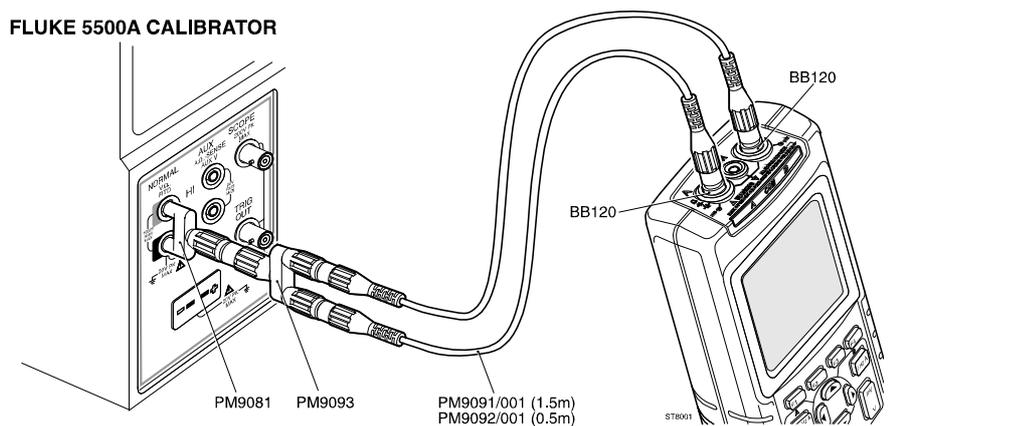

Figure 4-5. Test Tool Input A-B to 5500A Normal Output
1. Connect the test tool to the 5500A as shown in Figure 4-5.
1. Connect the test tool to the 5500A as for the previous test (see Figure 4-5).